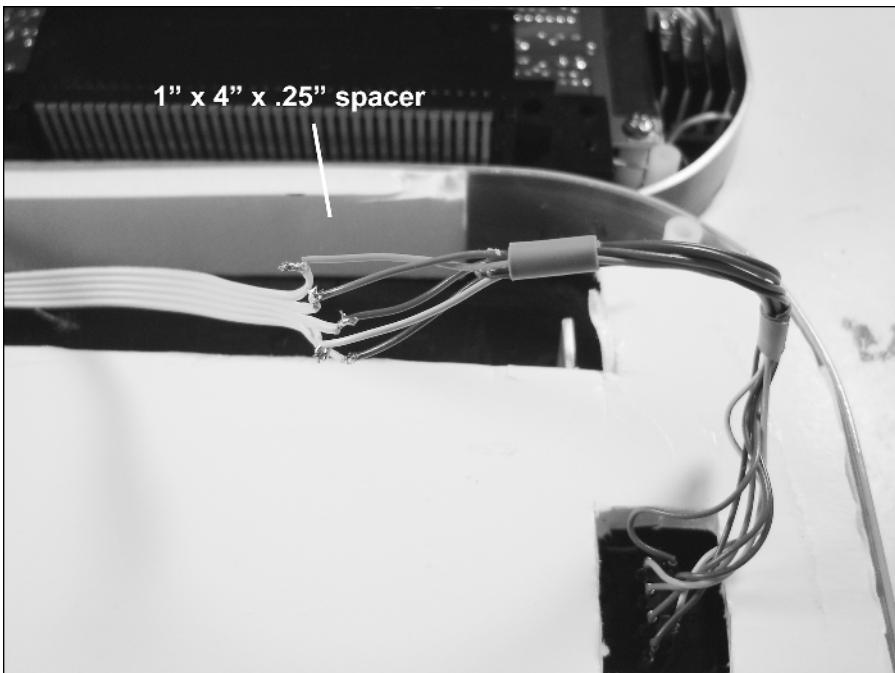

FIGURE 7-34: Attaching the Player 2 cable to the jack and the 1" × 4" spacer.
5. Attach the five-strand Player 2 ribbon cable coming off the NES to the colored wires coming off the Player 2 port, as shown in Figure 7-34. Put a small piece of electric tape around each solder connection in order to avoid short circuits (not shown in the figure).